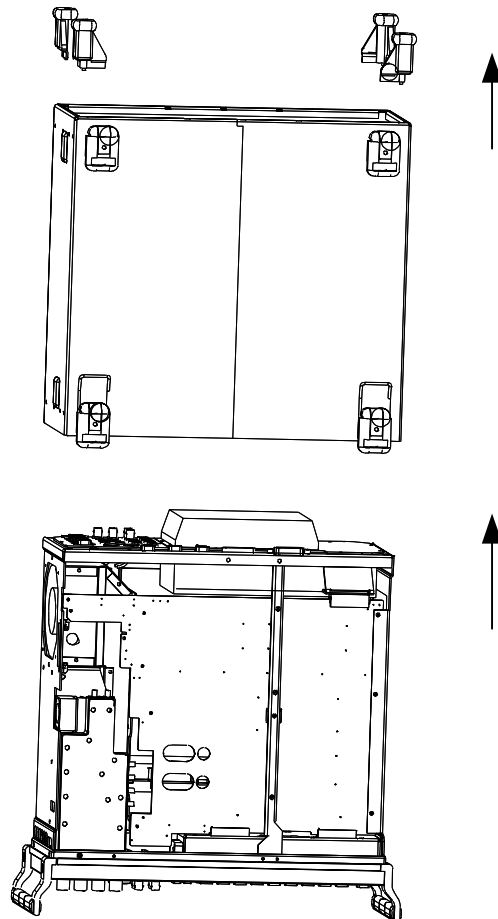

Fig. 1
- 1.3 Place unit on handles at the front, push casing upwards and remove (Fig. 1).
Fit cover and cabinet feet back on in the reverse order to that described under 1.2/1.3 (Fig. 1).